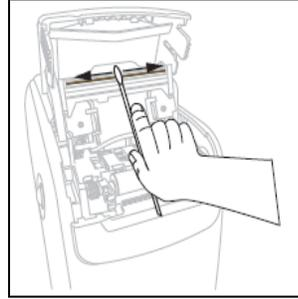

Figure 8
- 6 Refer to Figure 8. Using the swab from the Preventative Maintenance Kit or a swab dipped in the alcohol solution, wipe along the brown strip on the printhead assembly from end to end. Allow the solution to evaporate.